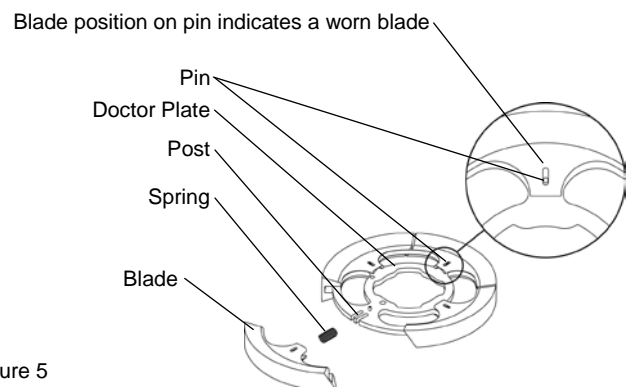

Figure 5
- 6) Inspect the lid O-ring (item 1) and clean the O-ring groove of any debris.
- 7) Remove the element compression assembly (item 2) and upper element O-ring (item 3). Inspect O-ring for damage.
- 8) Blade removal instructions (item 7):
- a. Inspect blades while in unit. Blade wear is indicated by pin location. See Figure 5. The cleaning blades should be replaced every six months to keep the filter in proper working order.
- b. Removing retaining pin (item 5) from carrier.
- d. Remove cleaning assembly (item 6).
- e. Inspect blades (see Figure 5). If blades are in good condition, skip to step 10.